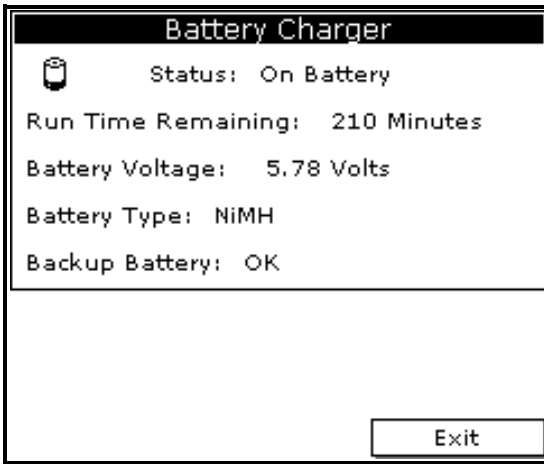

Figure 62: Battery Charger Window
3. Use the arrow key to scroll to **Battery** and press [ENTER]. A screen similar to Figure 62 appears.